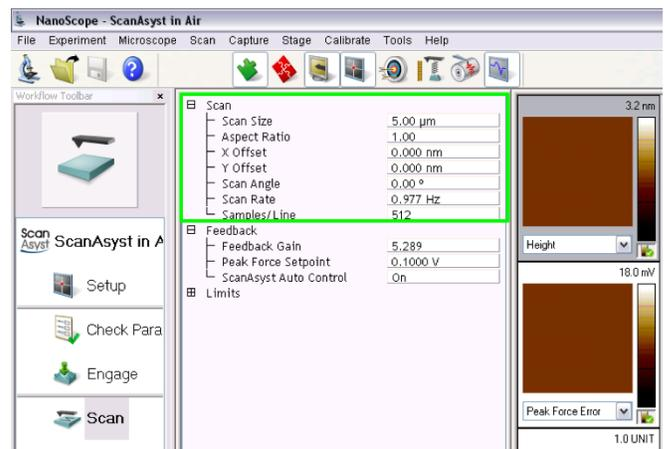

Figure 8. ScanAsyst parameters. Adjust those in the green box if desired and make sure ScanAsyst Auto Control is on; the others are adjusted automatically.
- **Specify imaging parameters** in the software, as shown in Figure 8. Good initial parameters are: